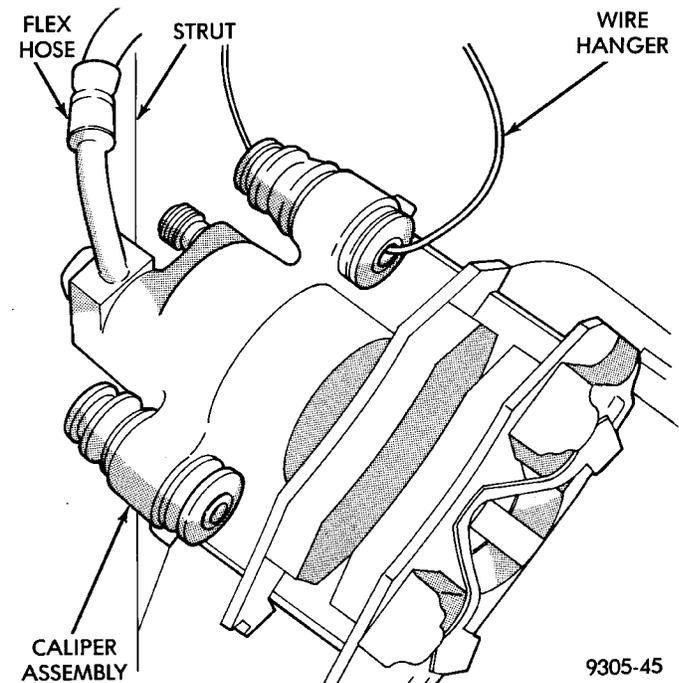

Fig. 12 Storing Rear Caliper
(1) Raise vehicle on jackstands or centered on a frame contact type hoist. See Hoisting in the Lubrication and Maintenance section of this manual, for the required lifting procedure to be used for this vehicle.
- (2) Remove the rear wheel and tire.
(3) If vehicle is equipped with rear disc brakes, remove the rear caliper from the adapter. Refer to Rear Disk Brakes in Group 5 Brakes of this Service manual for required caliper removal procedure. After removing the caliper, store the caliper by hanging it from frame of the vehicle (Fig. 12). Do not let weight of rear caliper hang from flexible brake hose.